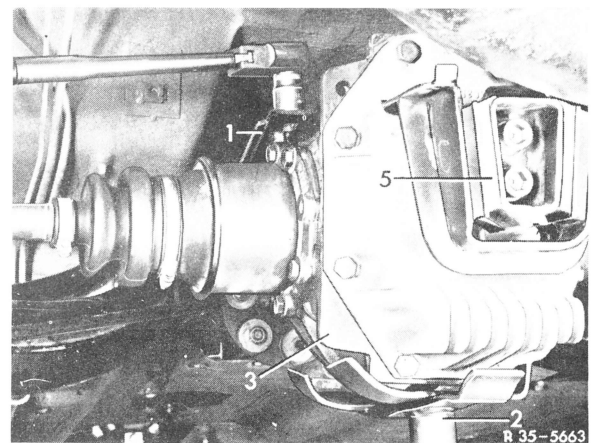

Fig. 9
12 Unscrew rear axle center housing (3) from rear axle carrier (1) (Fig. 9).
18 Mount rear axle center housing to rear axle carrier. Tighten self-locking nuts to 100 Nm (10 kpm) (Fig. 9).